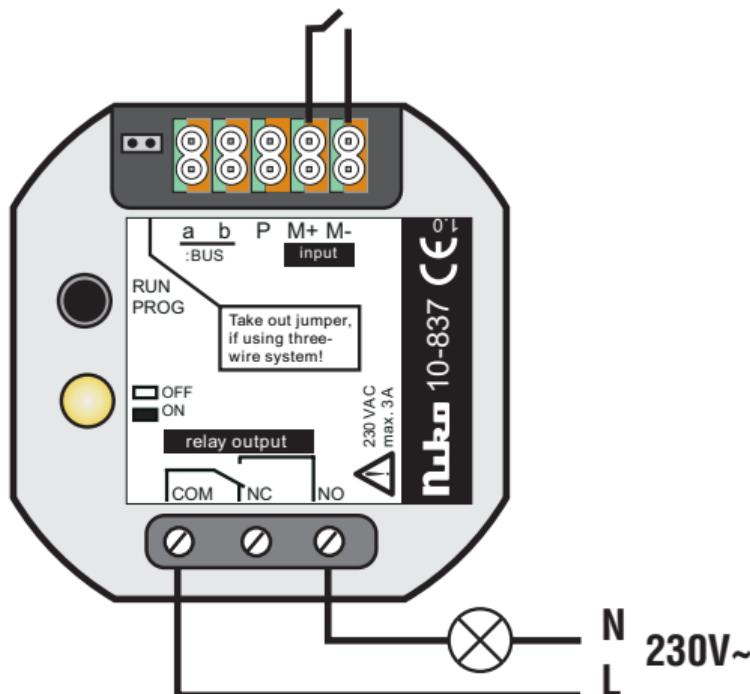

fig.6
This relay is designed for flush mounting and has 5 pairs of plug-in terminals that simplify wiring. To each terminal, 2 wires can be connected. The wire can have a diameter of max. 0.8mm. In order to insert the wire into the terminals, it must be stripped over a length of 5 to 6mm. The relay is directly connected to the bus. In case of a 2-wire connection, only a and b are connected. If over 3 relays type 10-837 are connected, a 3-wire connection is required. In this case, a, b and P must be connected and the relay jumper must be removed (fig.6). The relay 10-837 is provided with a potentialfree relay output with a 230V/3A changeover contact at the bottom. This relay output can be used as normally open (NO) or as normally closed (NC) contact. Depending on the desired operation, screw terminal COM must be combined with NC or NO. The relay is provided with an additional input (terminals M+ and M-) for connecting a push button/switch. The relay can be connected to the Nikobus home automation system via the in- and outputs (see technical catalogue Niko Access Control).